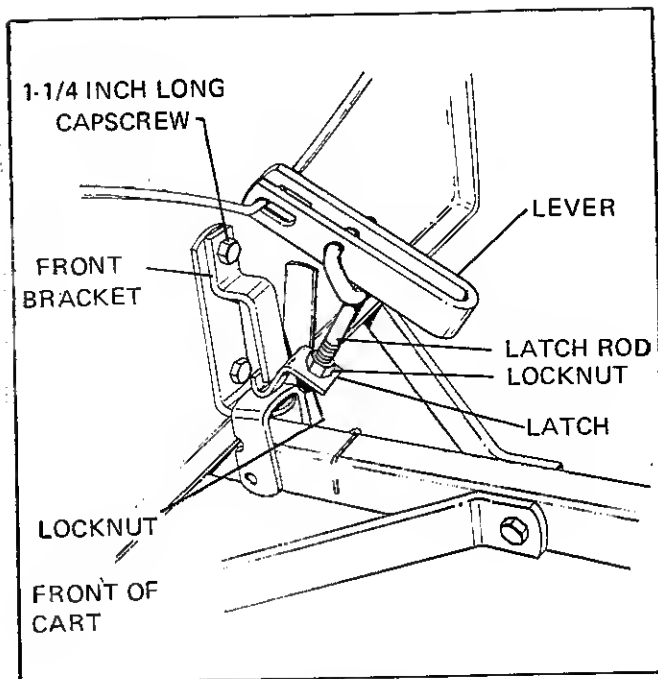
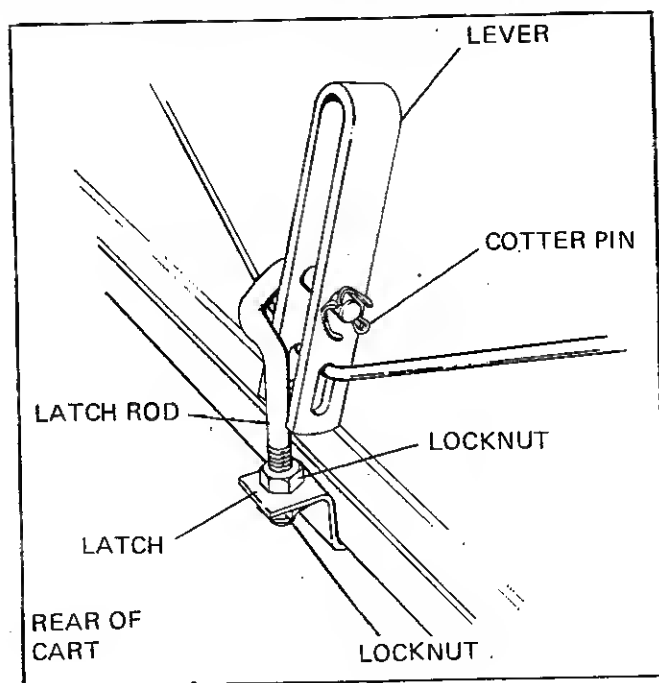

FIGURE 18
FIGURE 19
9. Secure bracket to front of cart with 1-1/4 inch long capscREW (Figure 18).
11. Insert rear latch rod through lever holes and secure it with a cotter pin (Figure 19). Install locknut, latch, and locknut on latch rod. With lever in closed position, adjust latch until it is securely hooked under cart. Repeat procedure for front side with latch tight under bracket (Figure 18).